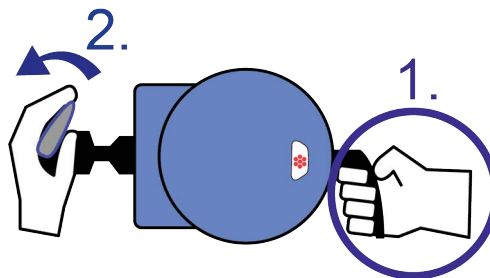

Figure 3-2 Support the PeriCam PSI when unlocking the ball joint.
1. Support the PeriCam PSI head with one hand, see Figure 3-2.
2. Release the locking lever, see Figure 3-2.